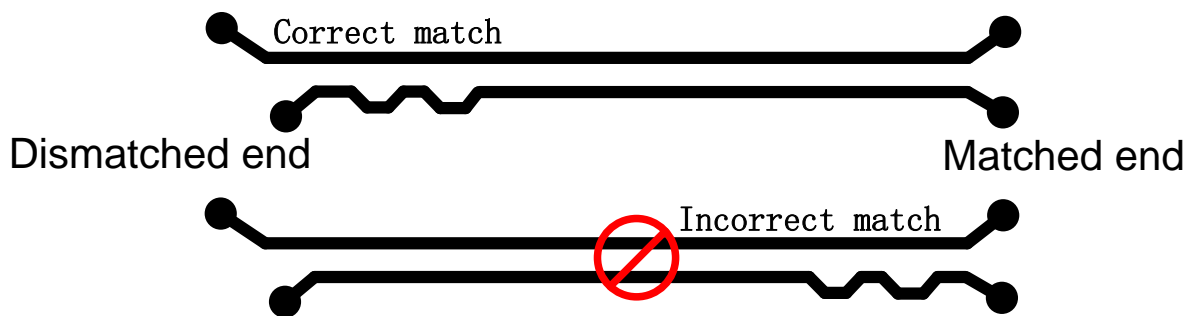

Figure 3-15 Length match design of PCIe difference pair
- The difference in length of two data lines in difference pair should be within 5mil, and the length match is required for all parts. When the length match is conducted for the differential lines, the designed position of correct match should be close to that of incorrect match, as shown in Figure 3-15. However, there is no specific requirements for the length match of transmit pair and receiving pair, which means the length match is only required by intra differential pair rather than inter differential pair.